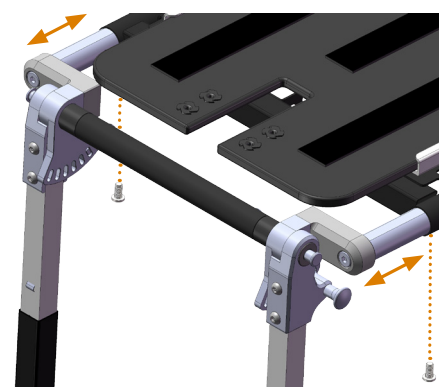

Figure 21. Bolts for leg rest unit
- Remove the two bolts (Figure 21) that secure the leg rest unit to the seat frame. The same procedure applies to both Separate leg rests and Centre leg rest.